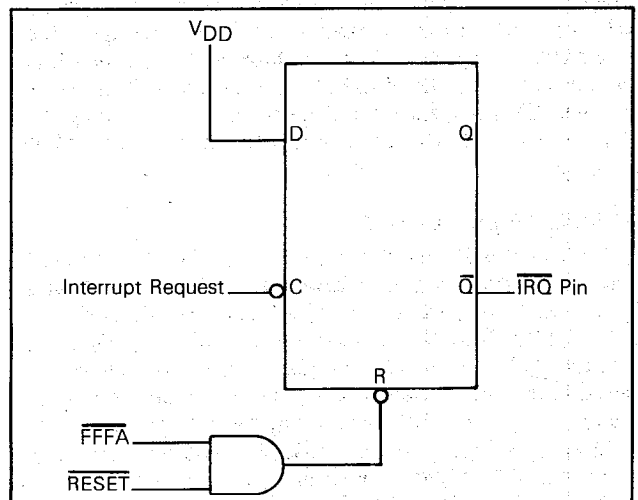

FIGURE 2 -- Edge-Sensitive Interrupt Circuit, Schematic Diagram
External interrupts provided on the MC146805E2 are both edge-sensitive and level-sensitive. The external interrupt provided on the MC146805G2 and MC146805F2 are mask programmable as: (1) either edge-sensitive only or (2) both edge-sensitive or level-sensitive. If the interrupt line is to be configured as edge-sensitive only, then the circuit in Figure 2 must be used.
There are few ways in which the simple stand-alone emulator circuits for the MC146805G2 and MC146805F2 could be expanded and improved. As mentioned earlier, all of the differences between the MC146805E2 and the MCUs could be resolved. Additional drive could be added to the outputs. The interrupt circuit of Figure 2 could be added for the edge-sensitive only option.